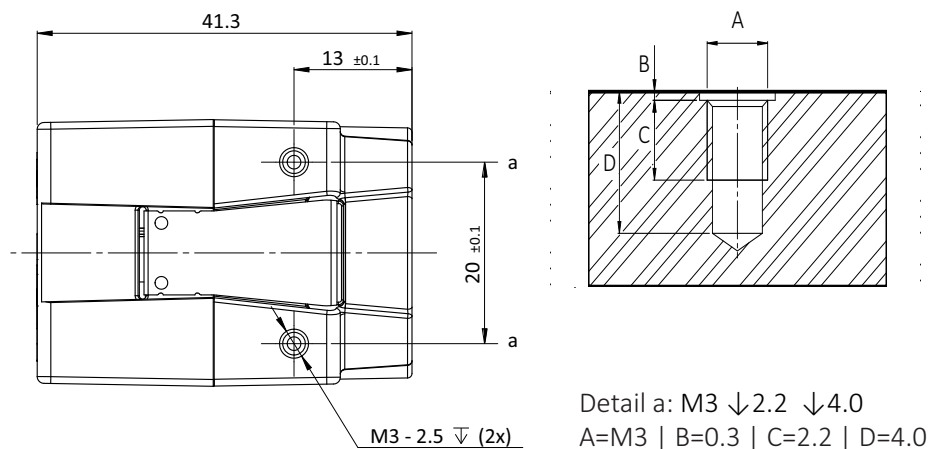

Figure 45: Mounting threads bottom and top (a)
1. As shown in Figure 45, mount the camera to the base using suitable M3 screws for mounting thread a: At 0.51 Nm maximum torque for a thread engagement (C) of 2.2 mm between screws and mounting threads.